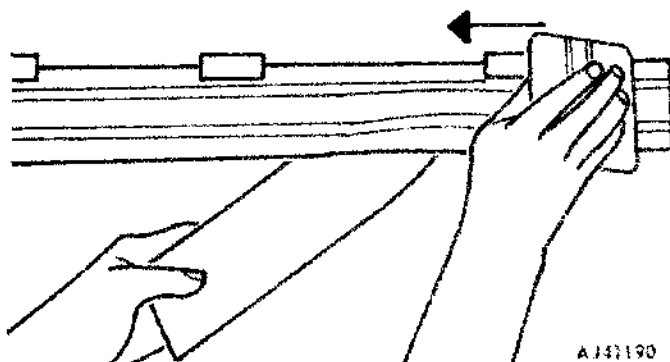

Fig. 20-5 Installing Decal with Squeegee
(6) Swing decal back down to aligned position. Squeegee decal to panel using firm strokes while removing remainder of paper backing (fig. 20-5).